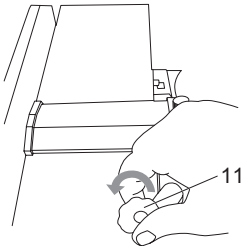

Fig. 14
- > Turn the height adjusting handle (11) anti-clockwise, this will lower the thicknessing table. (Fig. 14)